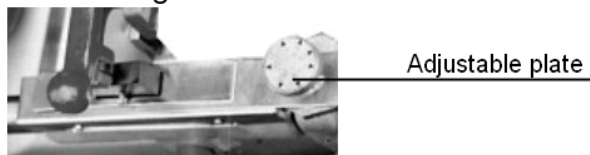

Fig. 3
5. Turn the adjustable plate to the position as required (see Fig. 3)